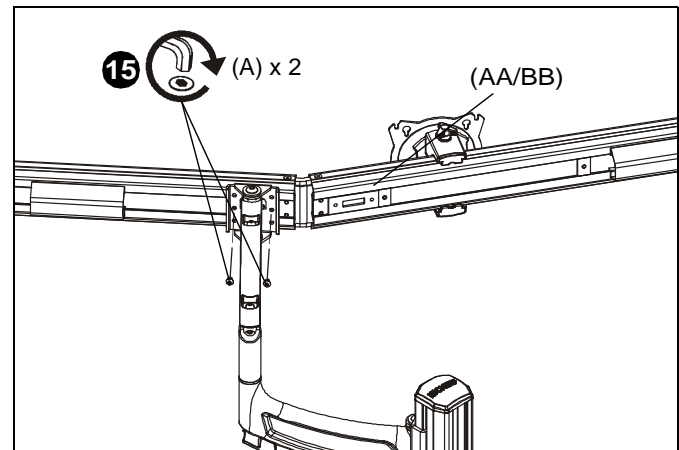

Figure 6
15. Use two #10-32 x 5/16" button head cap screws (A) to loosely secure column arms (F or G) to outside arrays (AA and BB). (See Figure 6)